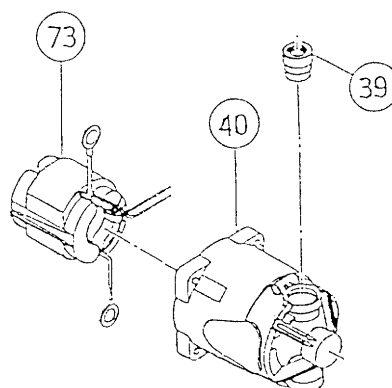

Fig. 12
(10) Disassembly of the Housing [40] and the Brush Holder [39] section (Fig. 12)